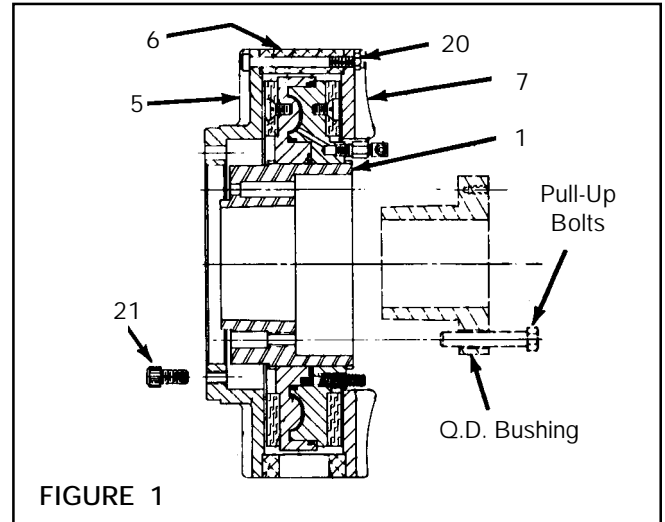

FIGURE 1
1. Remove Lock Nuts (Item 20) (See Fig. 1).
2. Remove Friction Disc (Item 7), and Flange Mount Housing (Item 6) from Flange Mount Disc (Item 5) (See Fig. 1).